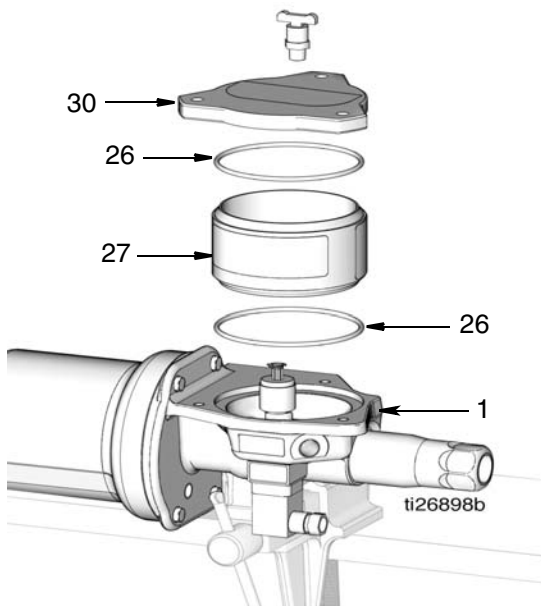

FIG. 17
12. Remove reservoir (27) from the pump base (1) (FIG. 17). If replacing reservoir o-rings (26), remove o-rings from reservoir and cover. Dispose of o-rings according to all regulations for proper disposal.